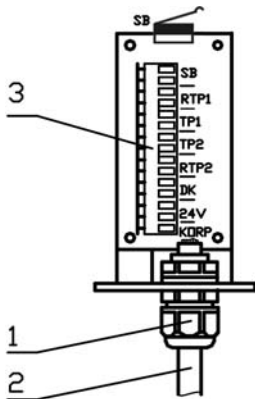
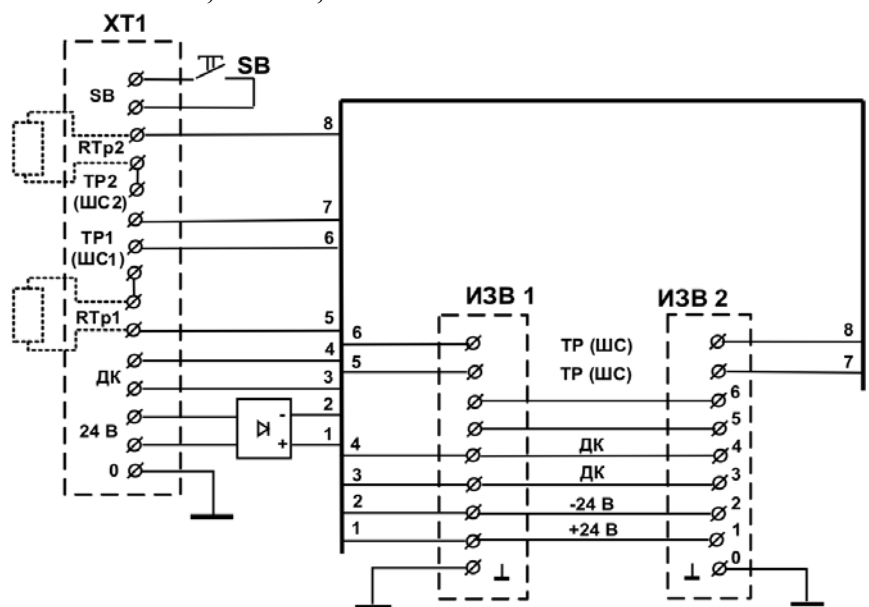

Fig.10.7
Fig.10.9
10.3.12 Undo pressure nut 1 several turns (Fig. 10.7) to release the cable lead-in hole.
10.7.1.1 Connect the wires of the connection cable (with CIU or concentrator) to contacts of the terminals on the back of the chassis in accordance with the electrical diagram of the project (see Fig.10.7, Fig.10.9). Place control resistors into “RTP1” and “RTP2” terminals. Connect the pairs of the control wires from CIU to “TP1” and “TP2” (ШС1 and ШС2) terminals. If the ALARM circuit is monitored at TP1(2) terminals without an external resistor (a jumper in the RTP terminals) it is necessary to limit the current to a value not exceeding 100mA (a current limiter can be installed instead of the jumper
Note. Connecting the TU connection cable to KSST-1,(BM-00 and other) is possible. In such case install the jumper into the second and third XT1 terminals shown in Fig.10.9 (count from the upper terminal). Connect the pair of control wires from CIU to the 1st and 5th terminals. Connect the pair of 24V wires from the power supply unit to the two “24B” terminals. Close the cover of KSST-1,(BM-00 and other).